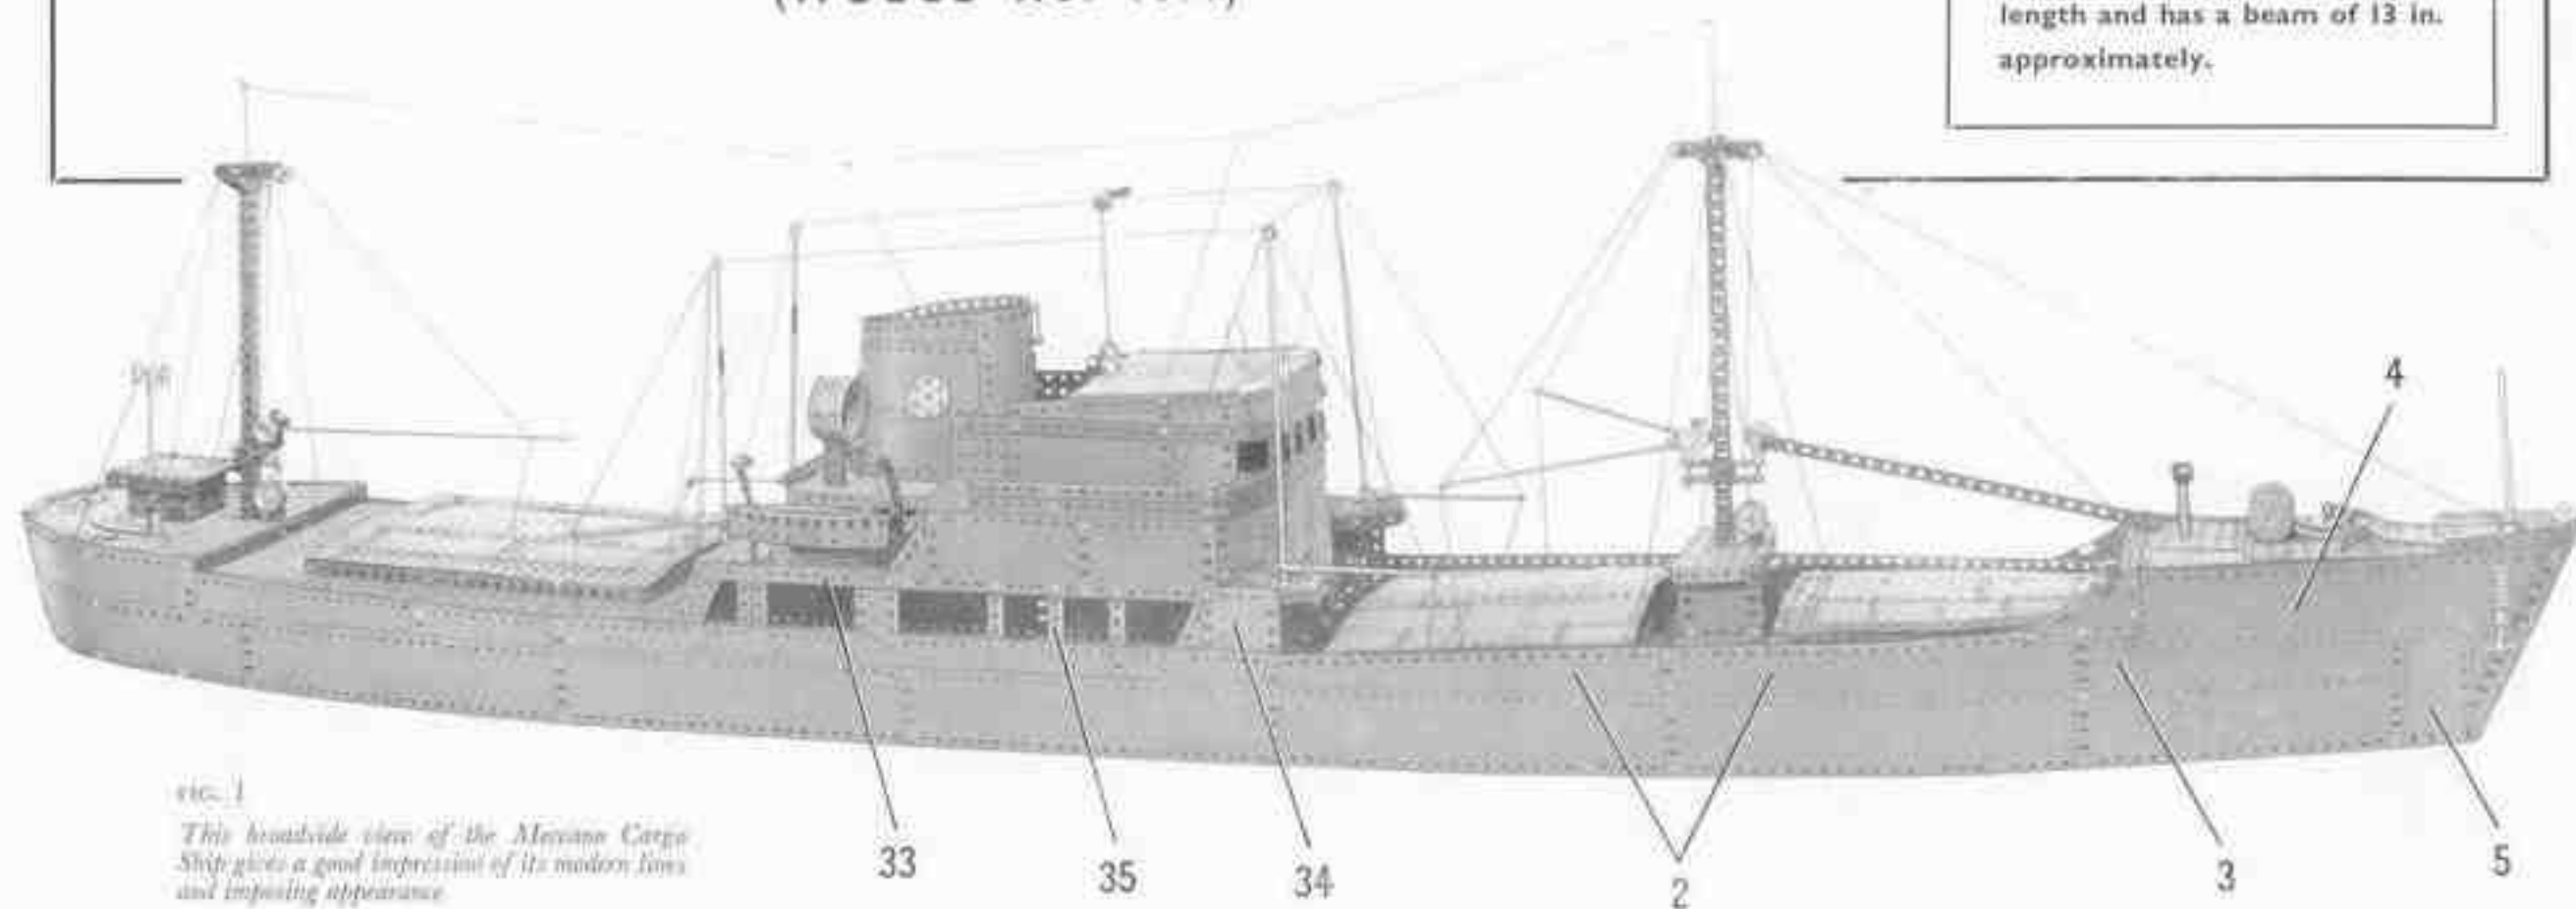

FIG. 1
**Constructional Details: The Hull (Figs. 1, 3, 4 and 5)**
extended upward by six  $5\frac{1}{2}'' \times 1\frac{1}{2}''$  Flexible Plates, and towards the bow two  $12\frac{1}{2}'' \times 2\frac{1}{4}''$  Strip Plates (2) are fixed at a slight angle (Fig. 1), and are extended forward by a  $9\frac{1}{4}'' \times 2\frac{1}{4}''$  Strip Plate (3). A further  $12\frac{1}{2}'' \times 2\frac{1}{4}''$  Strip Plate (4) and a  $3\frac{1}{2}'' \times 2''$  Triangular Flexible Plate are fixed to the Plates 2 and 3 as shown. A  $5\frac{1}{2}'' \times 2\frac{1}{4}''$  Flexible Plate (5) is bolted vertically to the front ends of the  $9\frac{1}{4}'' \times 2\frac{1}{4}''$  Strip Plates.
A strip (33) (Fig. 1) on each side is made up from a 12½" and a 7½" Strip. It is then bolted to a 2½" x 2½" Flexible Plate (34), edged at the front by a 5" Strip and at the rear by a 2½" x 1½" Triangular Flexible Plate. It is also bolted to two 2½" Strips and a 5½" Strip (35), to a 2½" x 1½" Flexible Plate, to two 2½" Strips placed together and to two 3" Strips arranged at a slight angle (Fig. 1).